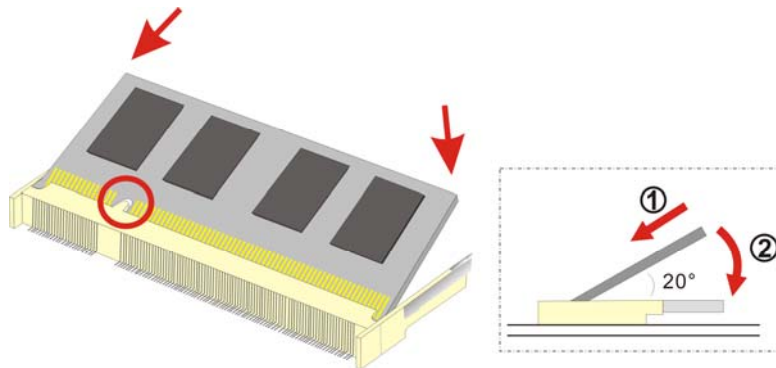

Figure 4-1: SO-DIMM Module Installation
- Step 5:** Install the new memory module by inserting it at an angle, then pushing down until the clips snap into place (Figure 4-1).